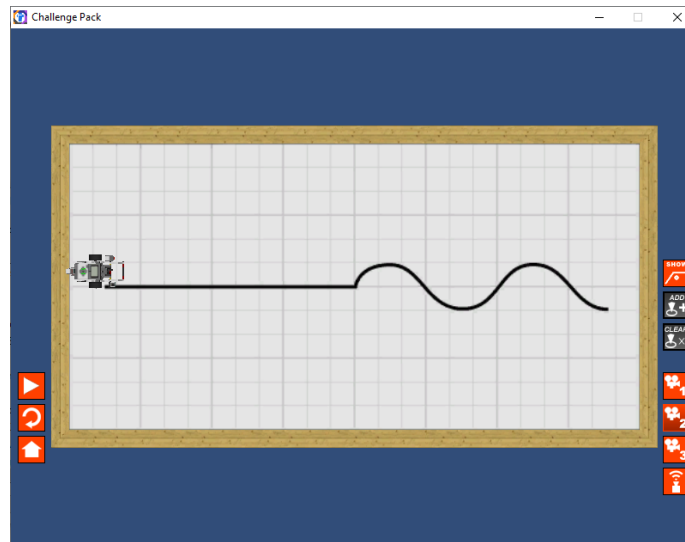

Figure 4: Line Tracking Challenge
- Develop the RobotC program. Test your program using the Line Tracking Challenge (Figure 4) under the Program Flow. Test your program with different forward motion speeds and comment on the performance of the algorithm.